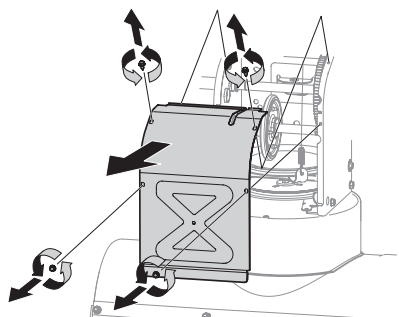

Figure 69
3. Remove frame cover from underside by removing self-tapping screws (Figure 69).
5. Remove frame cover from underside by removing self-tapping screws (Figure 69).
3. Remove frame cover from underside by removing four self-tapping screws (Figure 69).
5. Using the four self tapping screws, reinstall the frame cover (Figure 69).